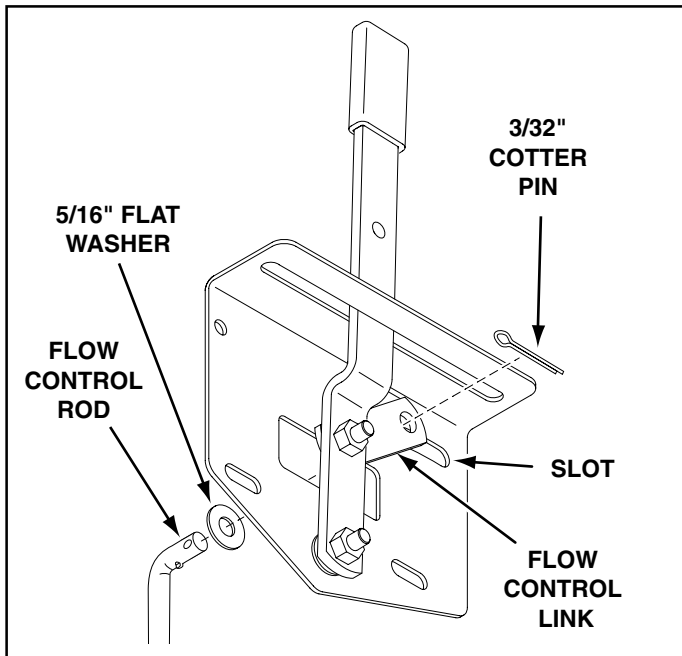

FIGURE 8
17. Place a 5/16" flat washer onto the end of the flow control rod. Insert the end of the rod through the slot in the flow control mounting bracket and through the hole in the flow control link. Secure with a 3/32" cotter pin. See figure 8.